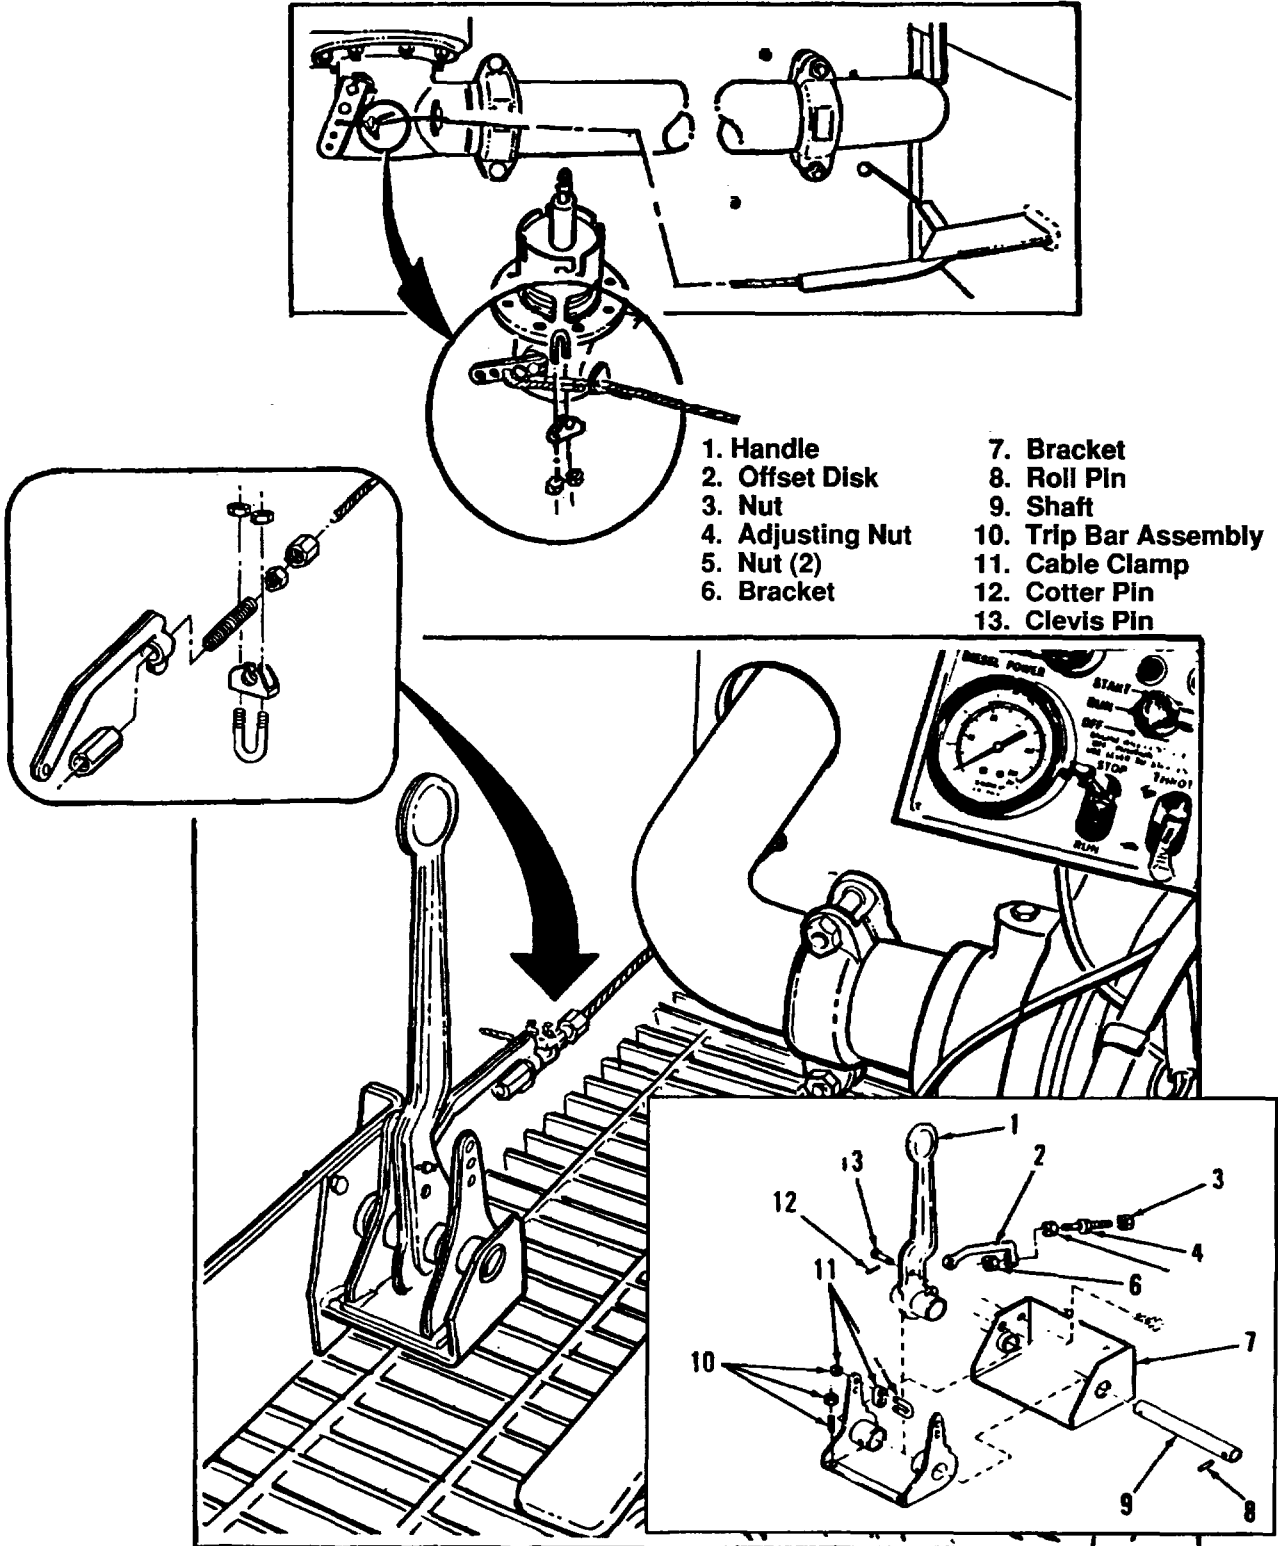

Figure 4-35. Emergency Valve Controls
### 4-34. Emergency Valve Control and Cable Service, Fig. 4-35.
(3) Remove cotter pin (12) and clevis pin (13) that secures offset link (2) to handle (1). Remove offset link (2).
(4) Disassemble further if needed, fig. 4-35.
(5) Reassemble by reversing steps (1) through (4).